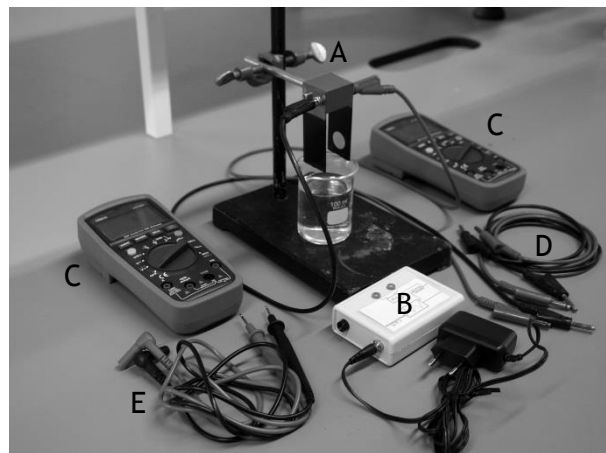
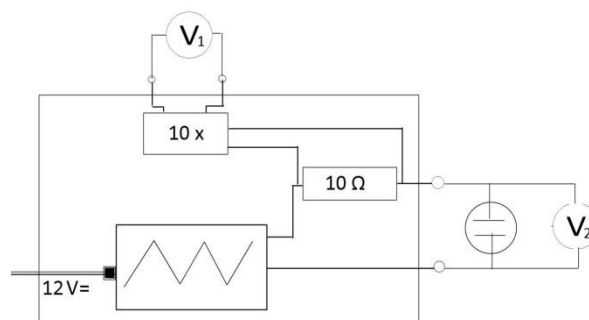

Figure 3 - Materials for the setup of the experiment
Figure 4 - Schematic of the power supply box. The symbol Ⓢ is used for the electrodes.
- A set of two gold-plated electrodes (part A in Figure 3)
- AC power supply box (B) (without cable)
- Two digital multimeters (C)
- Four electricity wires (red, black, 2x blue) (D) and two wires of a multimeter (red, black) (E)
In this experiment the electrical conductance of the salt solutions will be determined with the materials depicted in Figure 3. A set of gold plated electrodes is submerged in a beaker containing the salt solution. The electrodes must be connected to a power supply, which delivers an alternating voltage with a high frequency (1 kHz) and a low voltage. This is needed to prevent electrolysis of the salt solution. From the measurement of voltage across and current through the electrodes the electrical conductance can be determined. In Figure 4 a schematic of the power supply is shown, with the AC voltage supply depicted as the box with the triangle shaped symbol. During the experiment we will connect the ports on the right side with the electrodes for the conductance measurements. In order to measure the current, the box contains a resistor $R_1 = 10 \Omega$ and an amplifier to amplify the voltage across the resistor 10 times. The output is measured between the two upper ports.
3. Build the electrical circuit using the schematic from Figure 4. Make sure the multimeters are in the mV \approx , AC setting (using the blue button so that 'AC' appears in the display) for alternating current, and connected to the appropriate sockets.